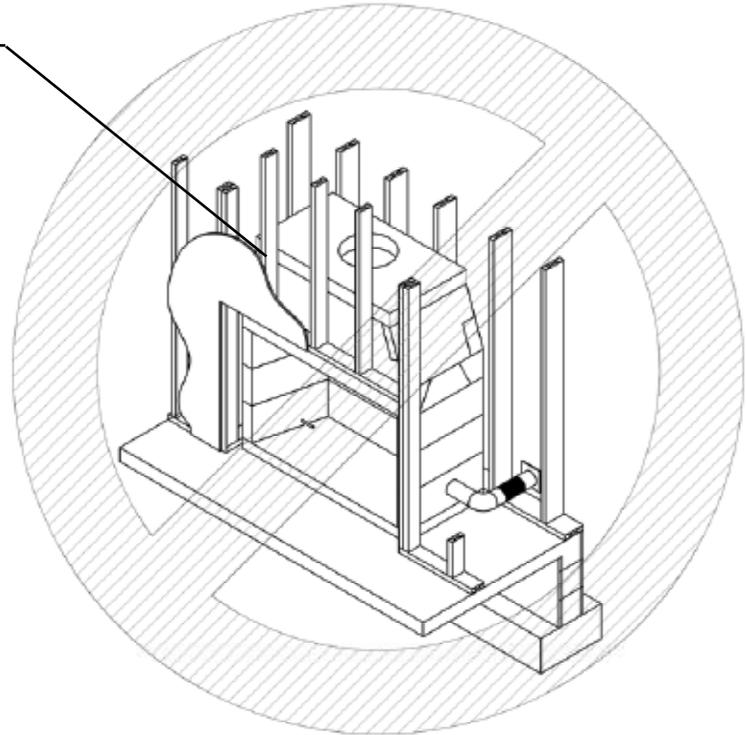

FIGURE 25
**CAUTION:** Do not frame a wall in front of the Standard Series firebox / smoke dome assembly, as shown in figure 25